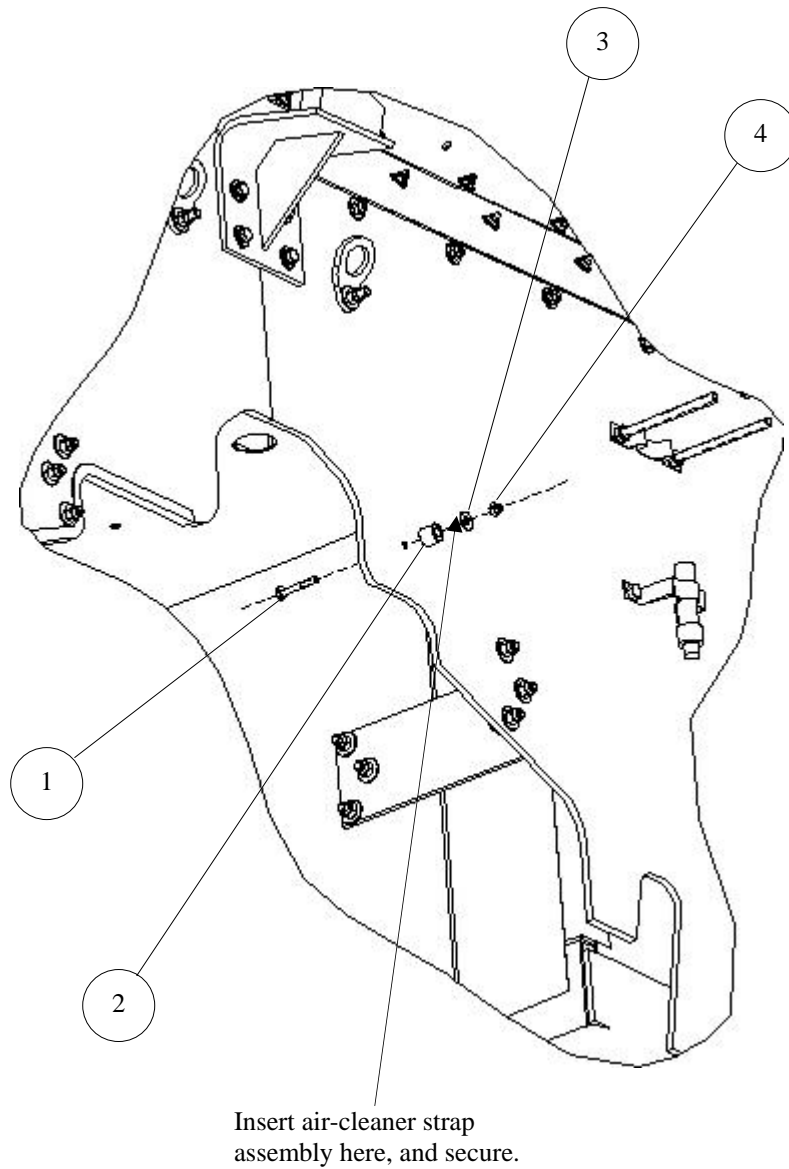

Figure 4-4. Re-installation of Air-Cleaner Hose Strap
10. Install bolt (1), stand-off (2), flat washer (3), and locknut (4), and secure air cleaner hose strap (not shown) to firewall per TM 9-2320-360-2. (See Figure 4-4.)